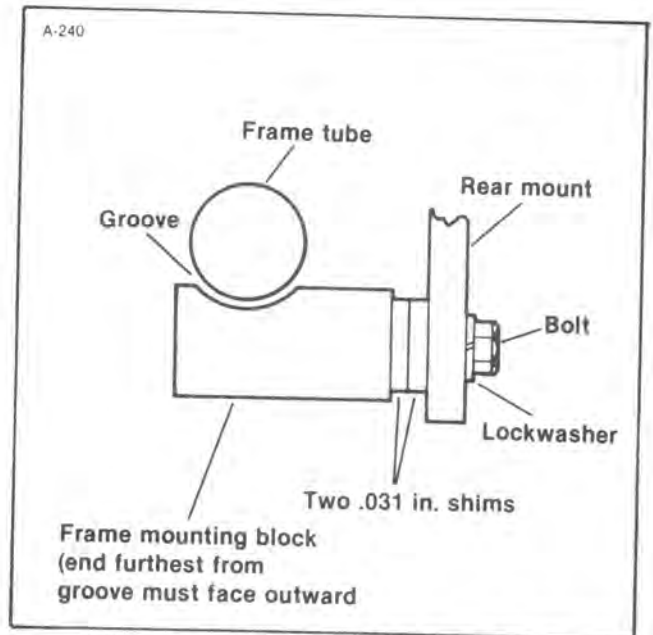

Figure 5-7. Positioning Mounting Block
6. See Figure 5-7. Attach the frame mounting block (28) and two .031 in. thick shims (22) to the rear mount assembly (1) with bolt (20) and lockwasher (21). Tighten bolt finger tight.
The frame mounting block must be positioned as shown in Figure 5-7 or the block could interfere with rear fork travel.